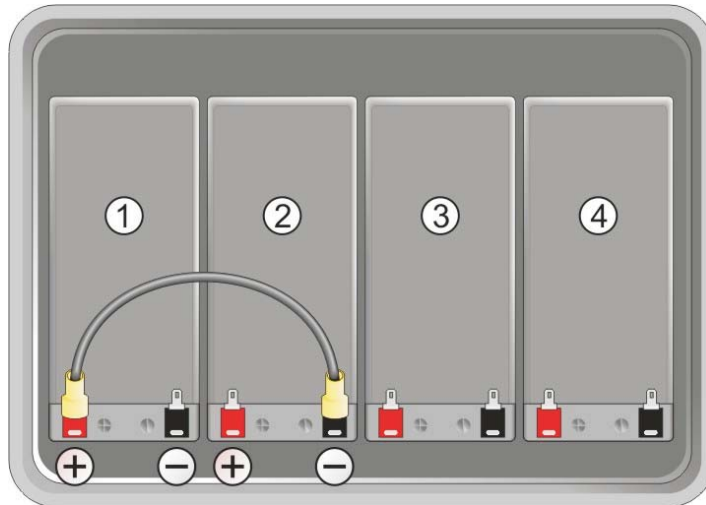

Figure 6-7:
5. Form a series battery connection by attaching a jumper wire between the positive (+) terminal of battery #1 to the negative (-) terminal of battery #2, as illustrated in Figure 6-7.